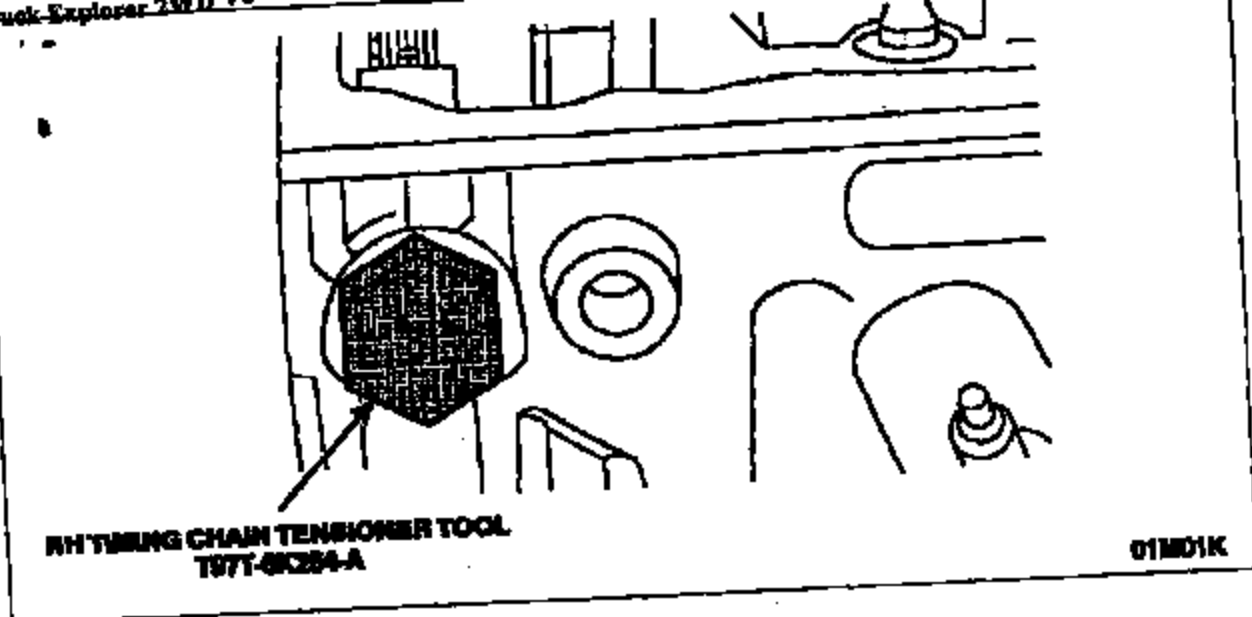

Figure 10
17. Remove the RH camshaft tensioner and install Timing Chain Tensioner Tool T97T-6K254-A. See Figure 10.